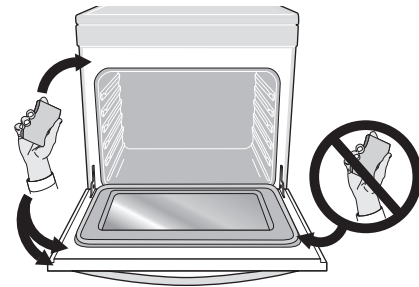

Figure 21: Areas to clean and areas to avoid (gasket)
- Do not spray oven cleaners or oven protective coatings in or around any part of the oven interior. Clean any soil from the oven frame, the door liner outside the oven door gasket, and the small area at the front center of the oven bottom (Figure 21). These areas heat sufficiently to burn soil on. Clean using soap and water prior to starting Self Clean.